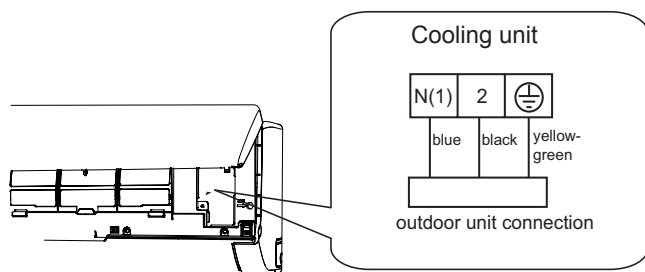

Fig.13
(3) Remove the wire clip; connect the power connection wire and signal control wire (only for cooling and heating unit) to the wiring terminal according to the color; tighten the screw and then fix them with wire clip.(As show in Fig.13)